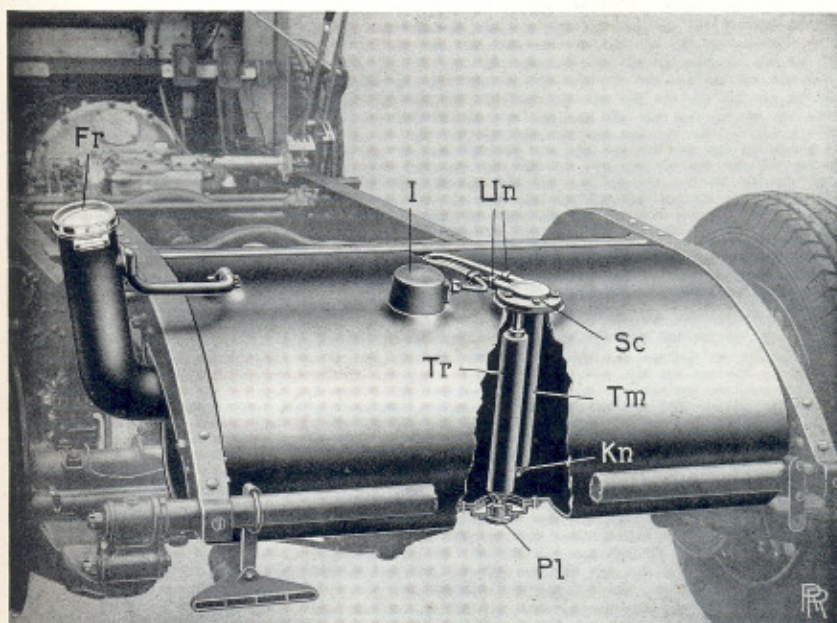

FIG. 15. FUEL TANK.
**Fuel Tank.** The main fuel tank is shown in Fig. 15.
The tank unit of the gauge is enclosed within a cover, **I**, Fig. 15.